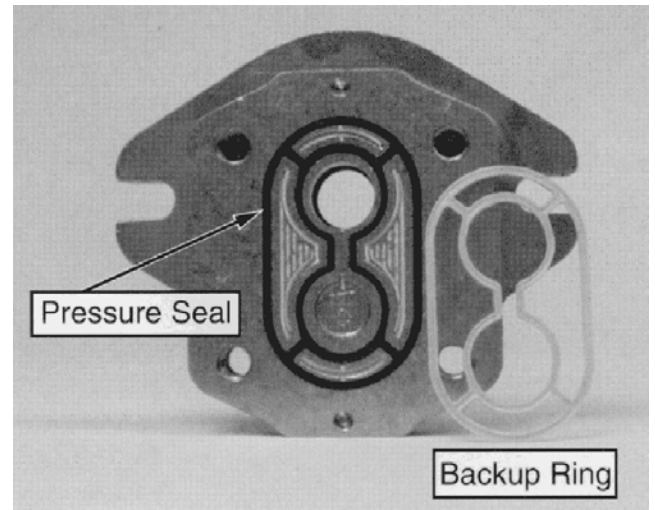

Figure 94
9. Carefully remove and discard O-rings, pressure seals and back-up rings (Fig. 94) from motor. Do not cause any damage to the machined grooves during the removal process.